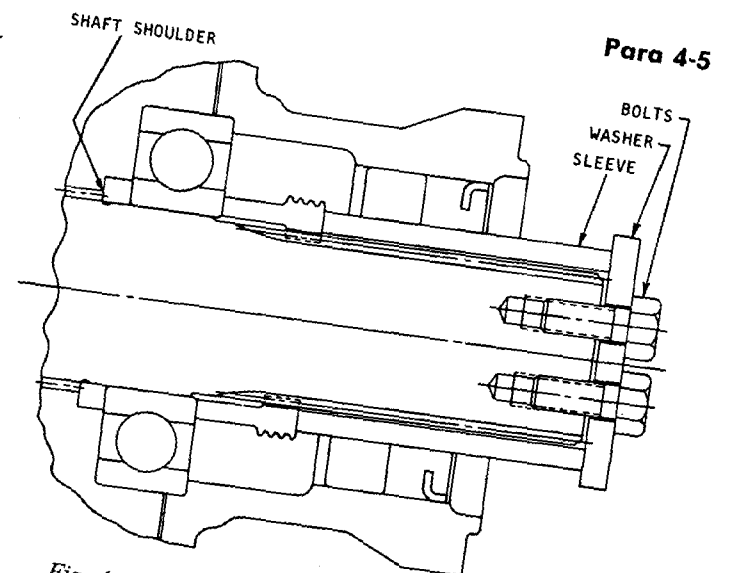

Fig. 4-5. Sleeve for positioning parts against shaft shoulder
(1) Make sure that the input shaft is in its most outward position and the bearing between the shaft shoulder and the flange is tight against the shaft shoulder. A typical method is to insert a sleeve over the shaft and pull tight with bolts and washers as illustrated in figure 4-5. Although figure 4-5 illustrates installation of an output flange, the procedure is the same for all flanges.
(2) Coat the shaft splines and the lip of the oil seal with a thin layer of bearing grease.
(3) Heat the flange to a minimum of 250°F prior to assembly. Two methods for heating are suggested as follows: